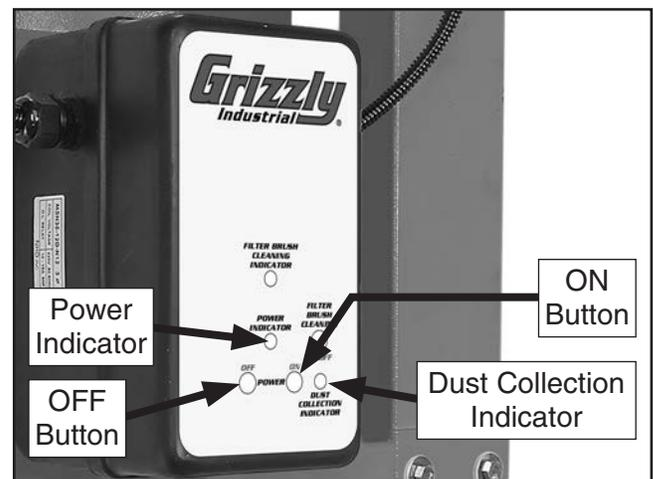

Figure 41. G0849 dust-collection motor OFF and ON buttons and indicator lights.
4. Stand away from intake port, then press ON button on control panel (see **Figure 41**) to turn dust-collection motor **ON**.
5. Press OFF button to turn dust-collection motor **OFF** (see **Figure 41**).